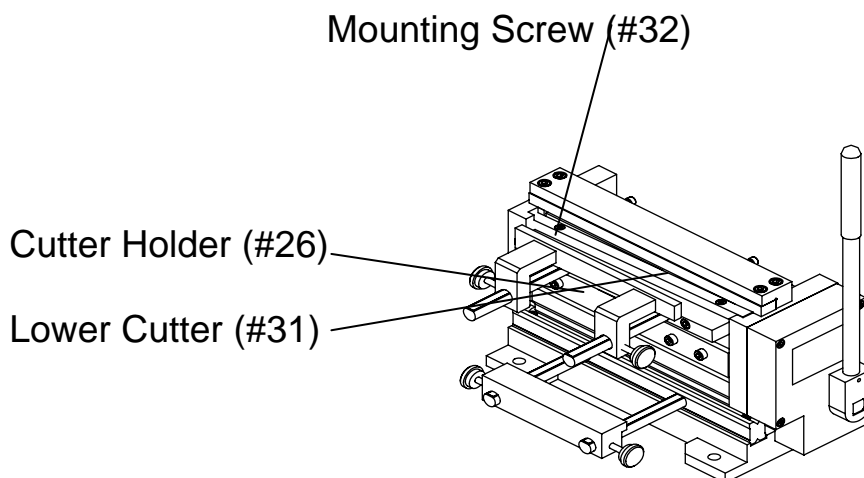

Figure 7 – Removing the Lower Cutter
Step 2: Loosen and remove the two MOUNTING SCREWS (#32) for the Move Hammer (#30) as shown in Figure 7.